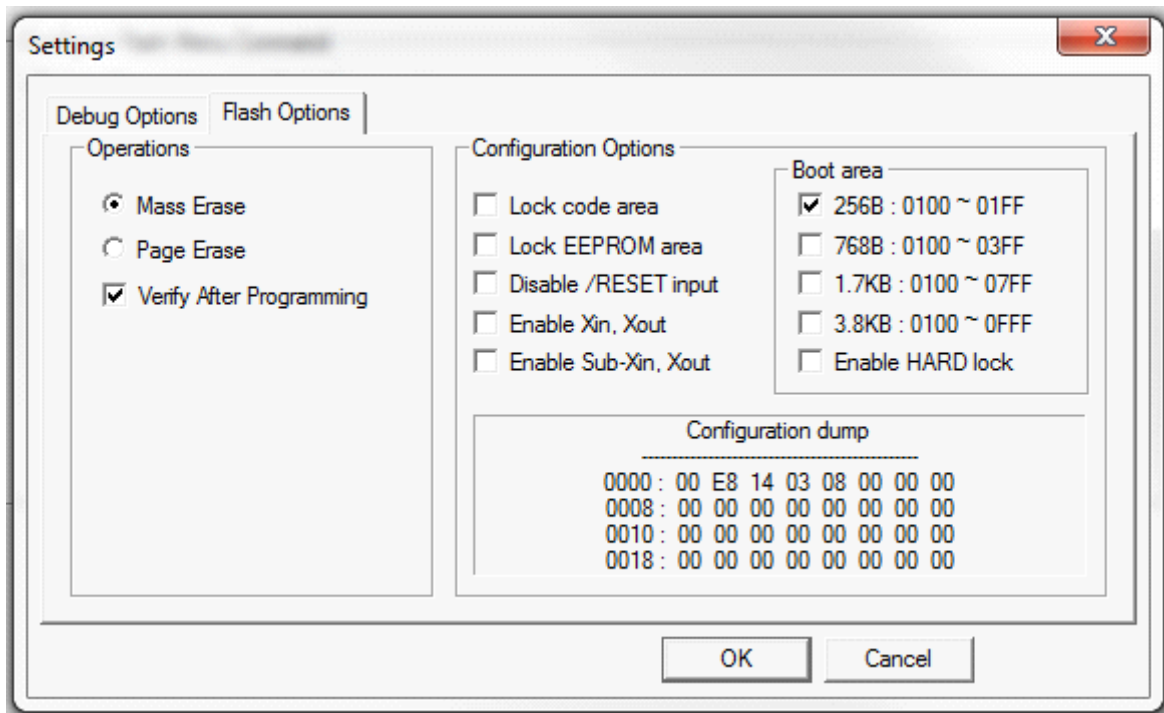

Figure 32. Configuring Additional Flash Options
2. Click the **Settings** button to change any additional Flash options. The Settings dialog will appear, as shown in Figure 32.